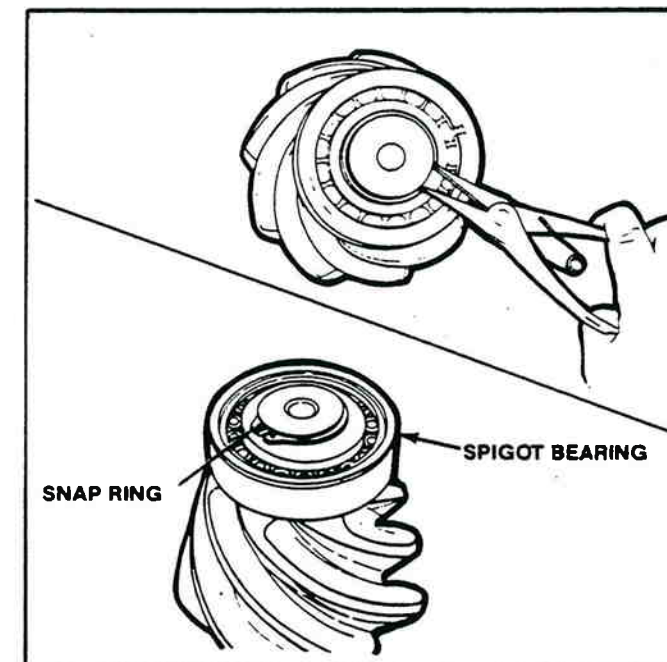

Figure 2-43. Installing Snap Ring.
3. Install the snap ring into groove in end of drive pinion with snap ring pliers (Figure 2-43).